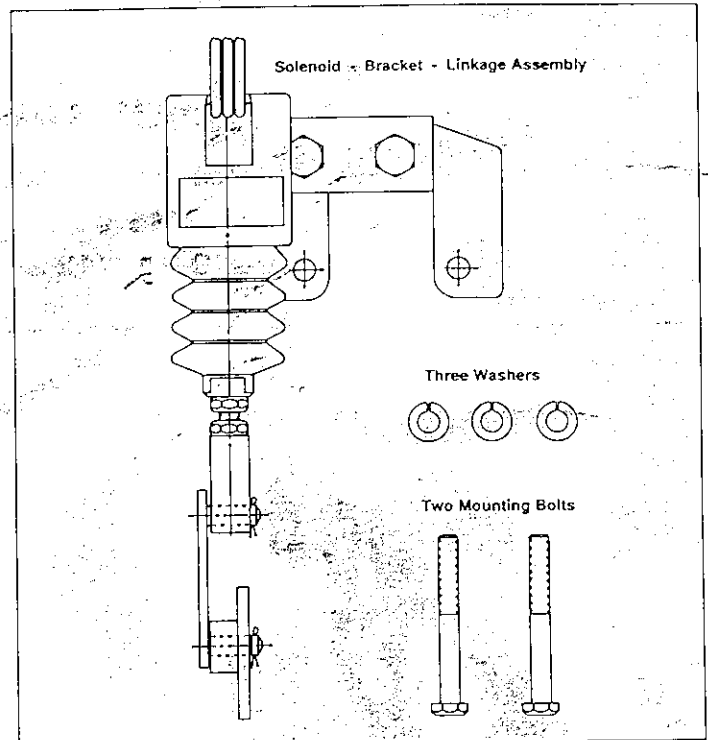

FIGURE 1: KIT CONTENTS
1. Refer to figure 1 to verify contents of the kit.
3. Remove existing fuel lever by removing existing bolt, fuel lever, spring cover and torsion spring. Discard original fuel lever and torsion spring. Save the original bolt (12) and spring cover (13) for later use. Torsion Spring **MUST** be removed!
4. Remove and discard the two upper governor housing bolts. These will be replaced during installation by new, longer bolts (6) and lockwashers (8) to ensure proper thread engagement.
- a. Place the solenoid/bracket/linkage assembly into position against the governor housing. Loosely attach utilizing new bolts (6) and lockwashers (8).